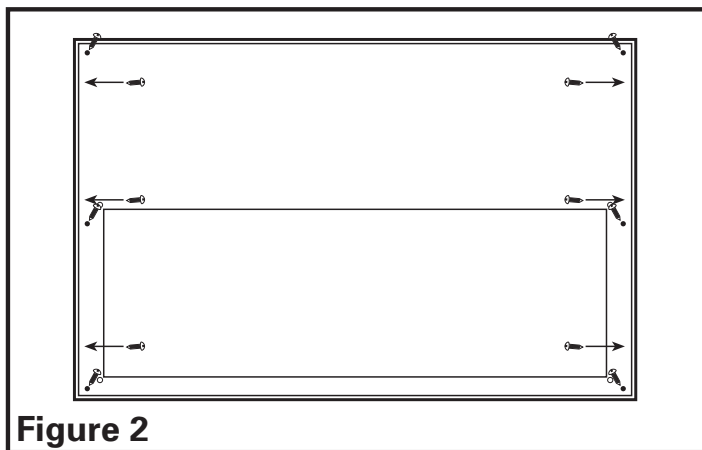

Figure 2
1. Secure the liner to the cabinet frame or custom canopy using three screws on each end of the liner and three screws on each side of the top of the liner (**Figure 2**).